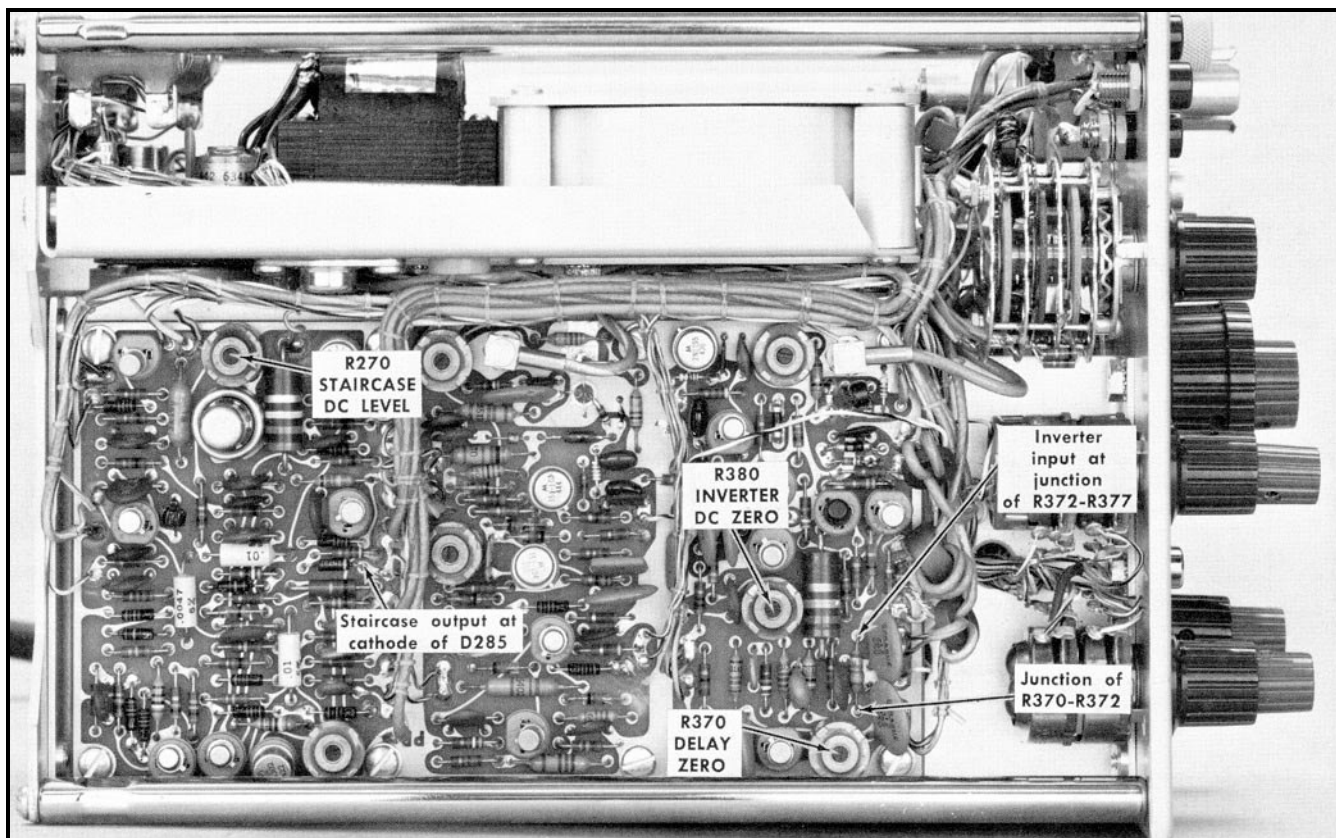

Fig. 5-11. Staircase and inverter adjustments on right side of Type 1S1. (Unit is positioned upside-down on test bench.)
c. Connect the test probe to the staircase output at the cathode of D285 (see Fig. 5-11).
h. Adjust R270 (STAIRCASE DC LEVEL) if the display is not correct. See Fig. 5-11 for the location of R270.
b. Connect the test probe to the junction of R370 (DELAY ZERO) and R372 (see Fig. 5-11).
e. Adjust R370 to position the free-running trace to the horizontal centerline of the test oscilloscope. See Fig. 5-11 for the location of R370.
f. Move the test probe tip to the staircase inverter input, located at the junction of R372 and R377 (see Fig. 5-11). This is at the other end of the same resistor.
i. Adjust R380 (INVERTER DC ZERO) if the level is not correct. See Fig. 5-11 for the location of R380.